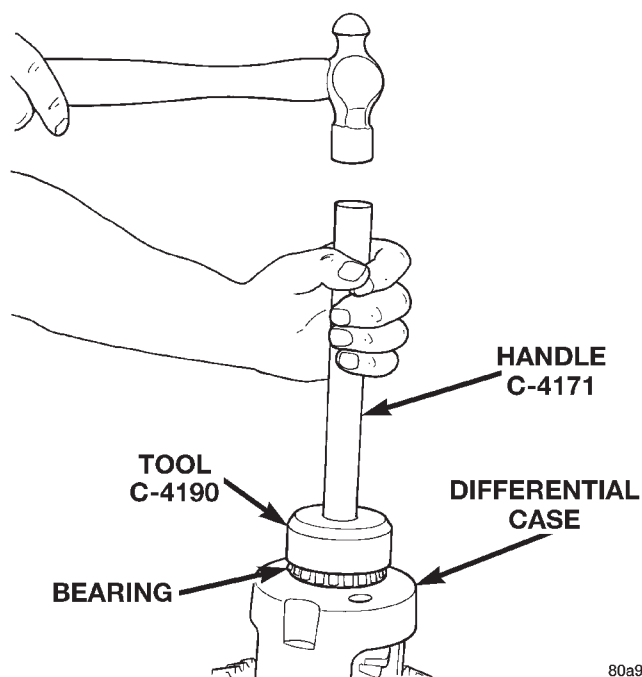

Fig. 16 Install Differential Side Bearings
- (1) Using tool C-4190 with handle C-4171, install differential side bearings (Fig. 16).